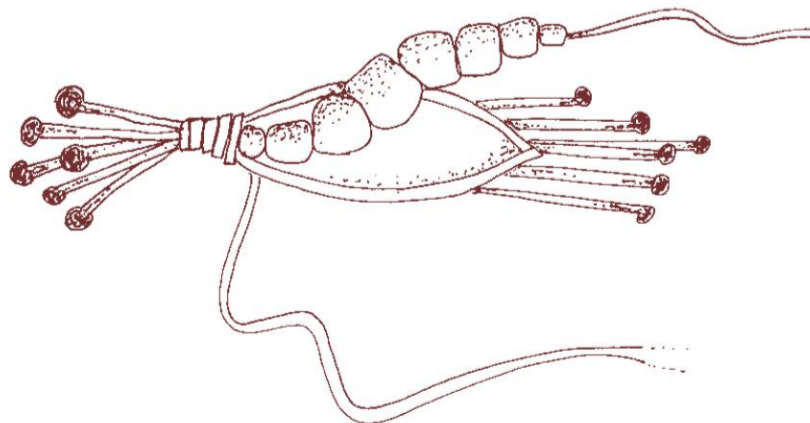

Figure 5
**7** String the beads on the short piece of 24-gauge wire inside the cupped mesh area. Bend the end of the wire to avoid having the beads fall off as you work. You can create variation in size from smaller at the ends and larger in the center to create a nice, tight fit and a true pod shape (see figure 5).